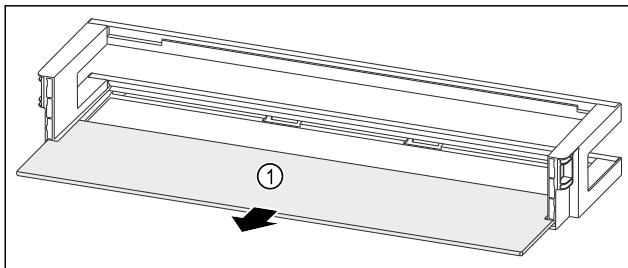

Fig. 48 Door rack with shelf
- Remove the shelf Fig. 48 (1).